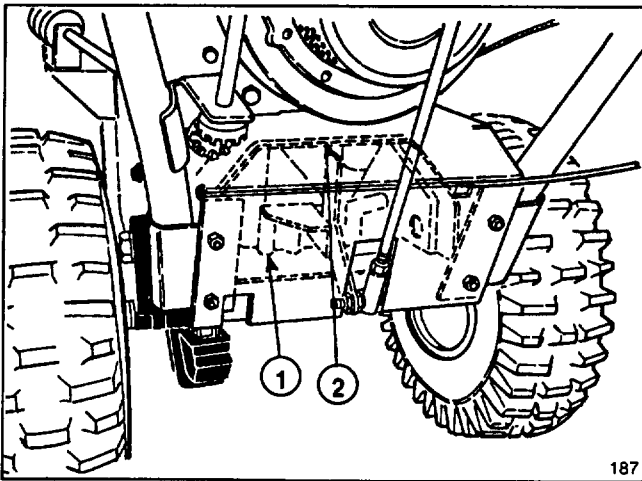

Figure 30
2. Check deflection of chain by lifting up on chain with moderate pressure at mid span. There should be 1/8–3/8" deflection (Fig. 30). If deflection is not as specified an adjustment is required.